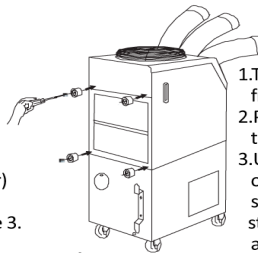

Figure 4
3. Use screws (enclosed inside of accessory box with rubber stoppers) to install the rubber stoppers on the unit as shown in Figure 4.